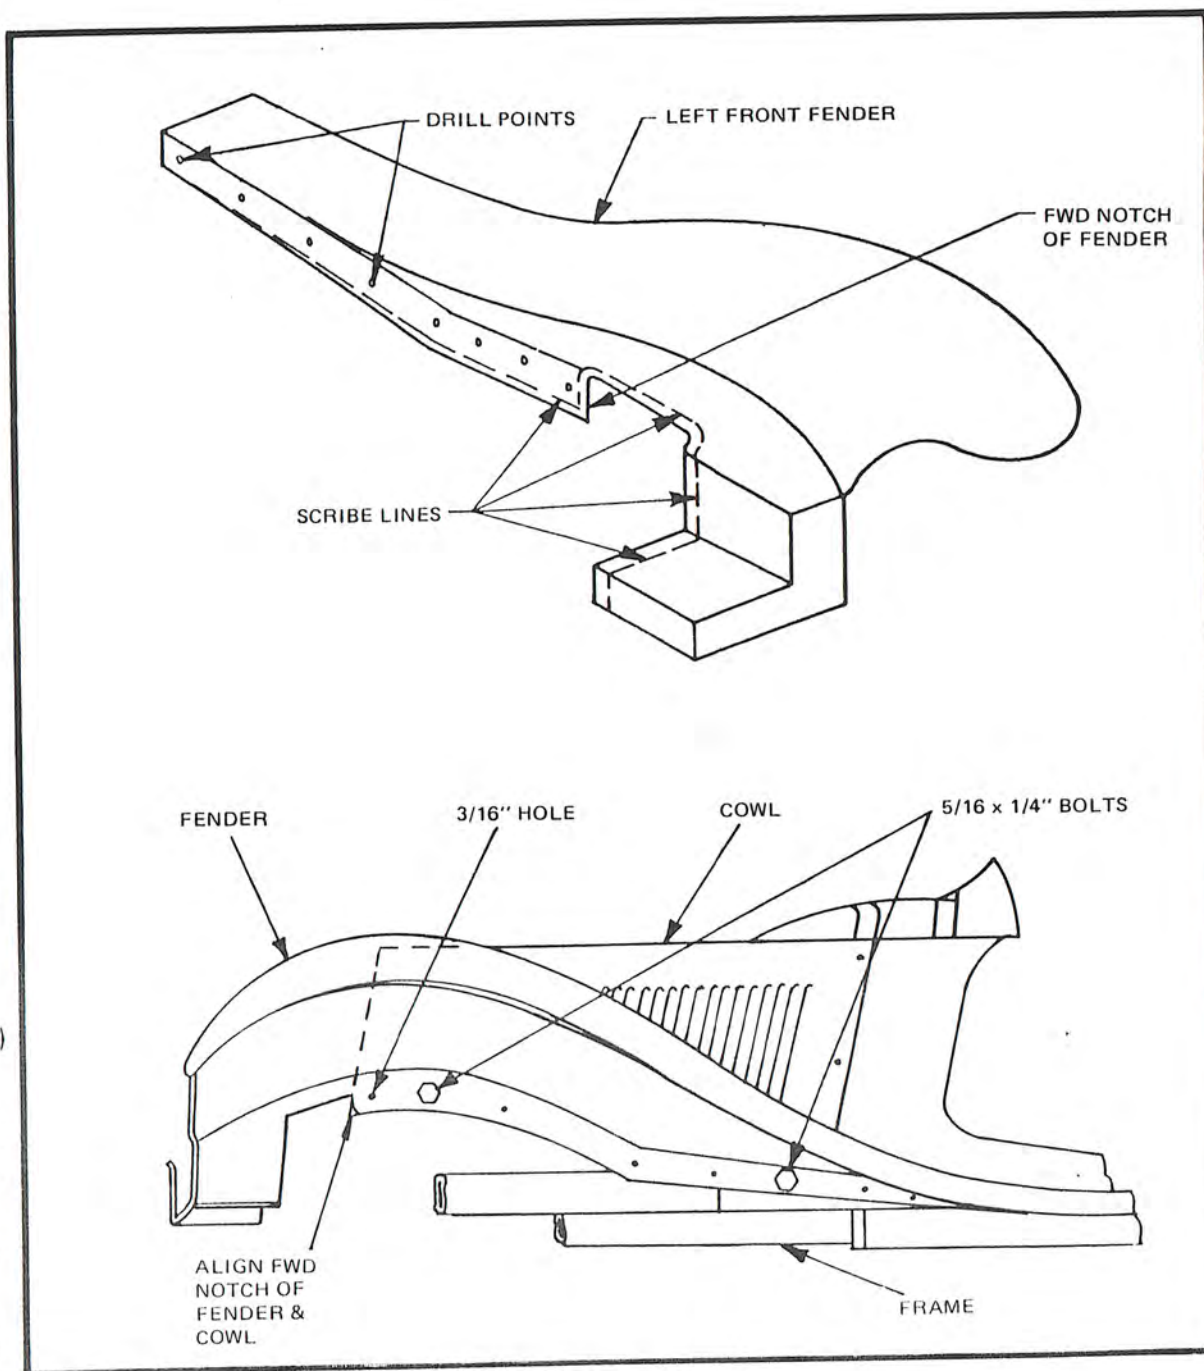

Figure 40
- Drill through last three holes of fender into body. Secure with $5/16 \times 1 \frac{1}{2}$ " bolts with 2 flat washers, lock washers and nut. Fasten remainder of fender using $5/16 \times 1 \frac{1}{4}$ " bolts with 2 flat washers, lock washer and nut. (Do not bolt forward hole at this time.) Hand tighten all bolts as welting will be installed later. (Figure 40)